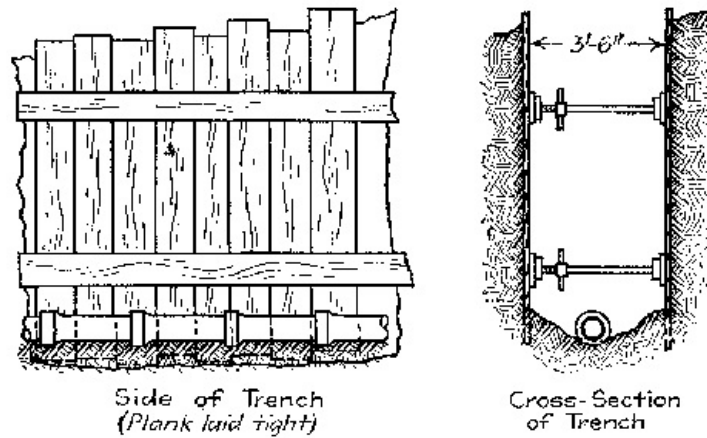

**Fig. 35.—Connection of house sewer to main sewer.**
found by digging down to the depth of the sewer. A branch should be chosen so that the pipe can be laid with a pitch, the same way as the main sewer pitches. This can be done by getting the measurements of two of these branches and choosing the one that will serve best. When there is a brick sewer in the street and no branches left out, the sewer must be tapped wherever the house sewer requires it (see Fig. 35).
**Connecting.**—The proper method of connecting the house sewer with the street sewer is shown in Fig. 35. The connection should be made above the spring of the arch. The pipe should extend well into the sewer so the sewage will discharge into water and not drop on sides.